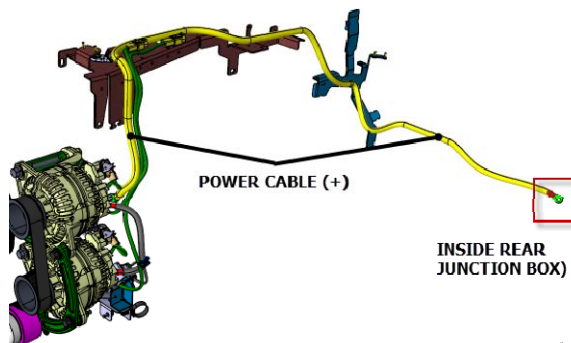
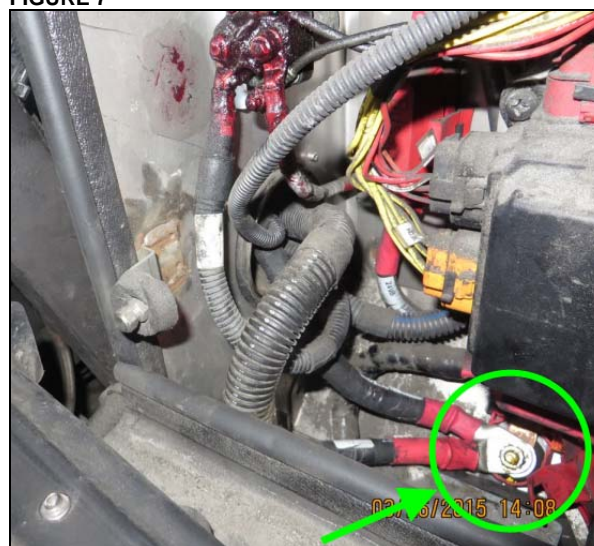

FIGURE 7
FIGURE 8: X3 SERIES - POWER CABLE 102A CONNECTED TO BUSMAN JUNCTION BLOCK - **TORQUE 10 lbf-ft**. APPLY COLOR GUARD RUBBER COATING
5. **Disconnect power cable (circuit 102/102A) from the 24VI junction block or relay R1 as applicable in the rear junction box/main power compartment (FIGURE 8 & FIGURE 10).**
9. Replace the existing 2/0 gauge power cable (circuit 102 or 102A) (FIGURE 7) with new 3/0 power cable (FIGURE 2). This cable is routed from the upper alternator B1+ stud terminal up to the 24VI junction block in the rear junction box/main power compartment (FIGURE 8, FIGURE 9, FIGURE 10 & FIGURE 11).